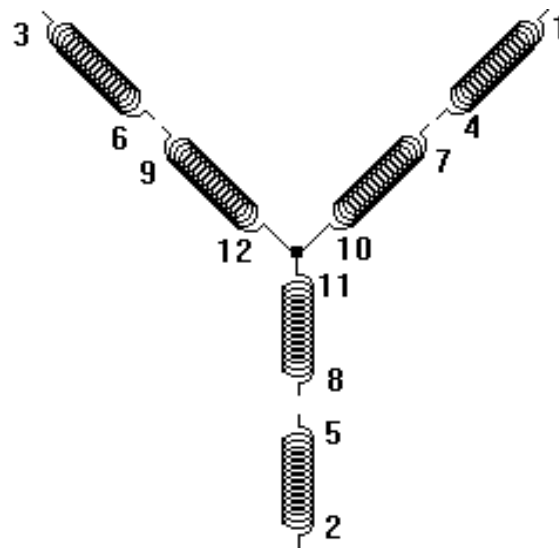

Figure 3, Schematic for a Wye Connected Motor
- Wye Connected Motor.** The symbol for a wye-connected motor is the symbol Y, sometimes referred to as a star. Figure 3 shows a schematic diagram of a wye-connected dual-voltage motor. Leads 10, 11, and 12 are connected together (normally done inside the motor by the manufacturer). These leads are the internal connections that form the Y. The remaining nine leads are brought out of the motor for the external connections.